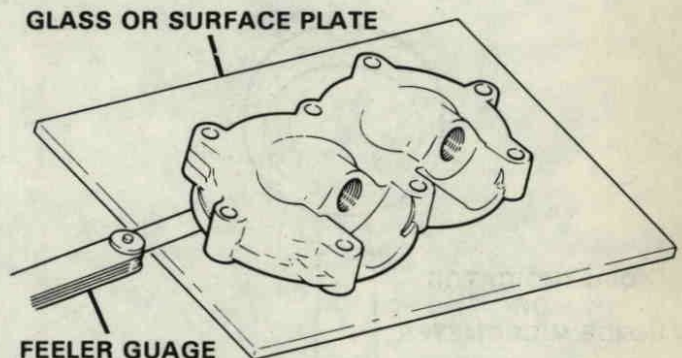

Figure 22. Checking Flatness of Cylinder Head.
B. Check flatness of cylinder head by laying gasket surface on a piece of plate glass or surface plate. Measure at different points between head and glass with feeler gauge. Figure 22.